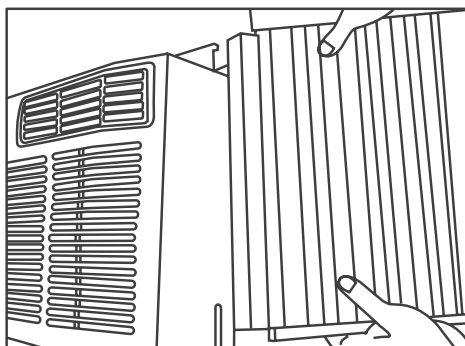

Fig.3
- Slide the free end of the panel into the cabinet as shown in Fig.3. Slide the panel down. Be sure to leave enough space to insert the top and bottom of the frame into the rails on the cabinet.